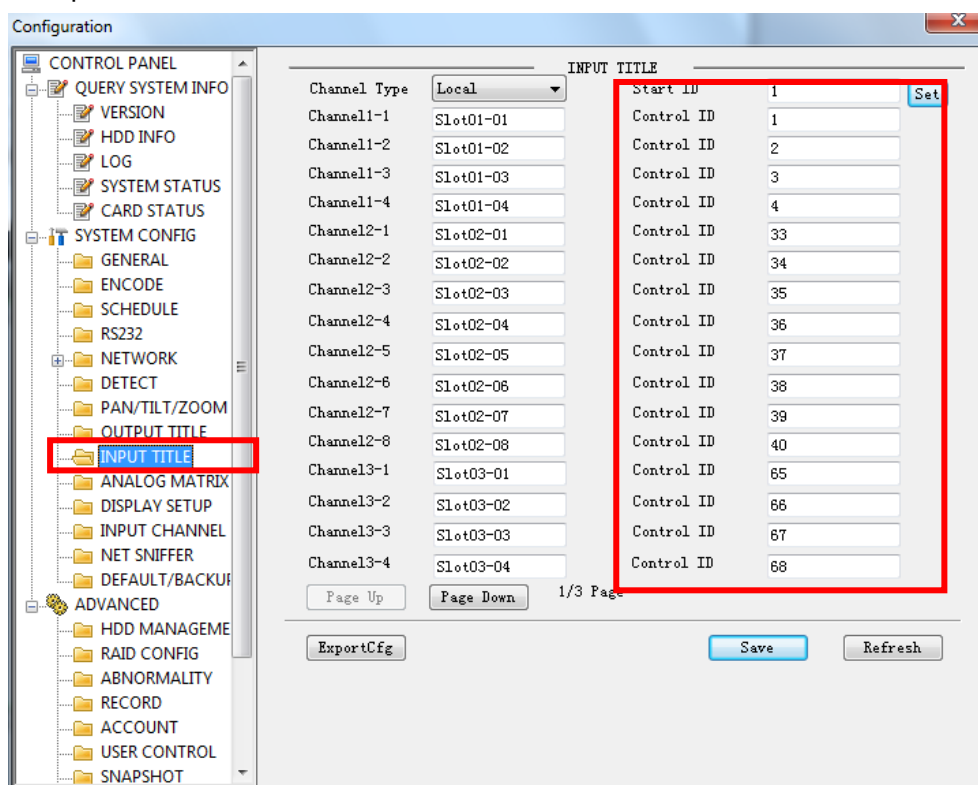

Figure 7-2
- From **【Setting】** -> **【Input Title】**, you can edit the corresponding control SN of the local input signal. See Figure 7-2.